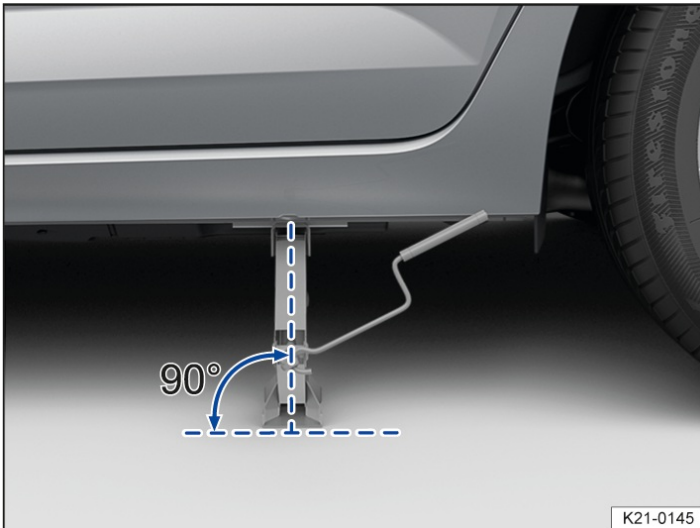
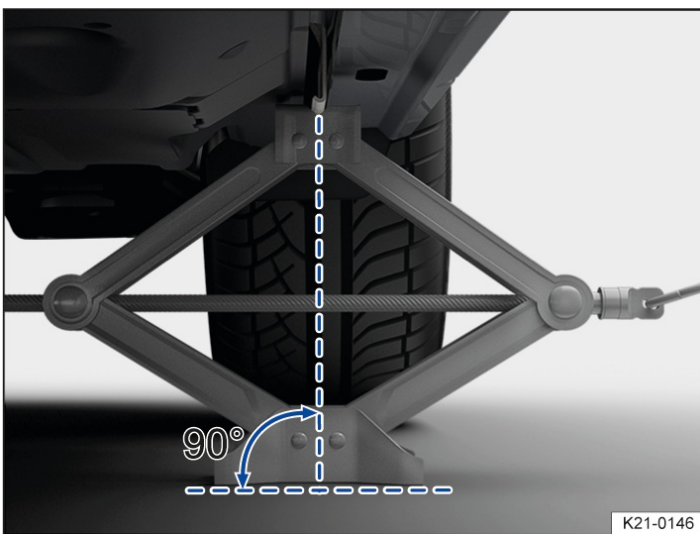

Fig. 2 Correct alignment of the jack.
Fig. 3 Jack applied at the rear left-hand side of the vehicle.
4. Make sure that the entire surface of the foot of the jack is resting securely on the ground and that the foot of the jack is positioned vertically directly beneath the jacking point → *Fig. 2* and → *Fig. 3*.
5. Position the jack and simultaneously continue to crank the claw up until it is in position around the jacking point underneath the vehicle → *Fig. 3*.
- Fit the jack only at the described jacking points. The jack claw must grip the vertical rib under the side member securely → *Fig. 3*.